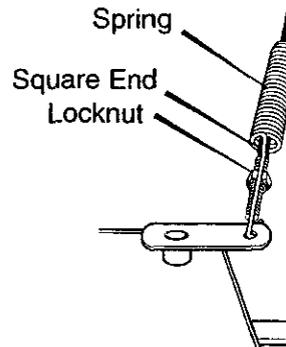

Figure 26
3. Pull spring cover up to expose **spring**. Push the cable through the **spring** to expose the threaded portion of the cable. See Figure 26.